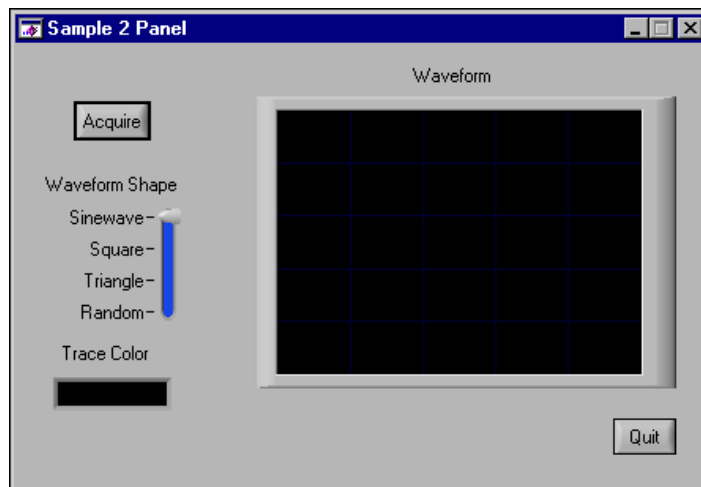

Figure 2-5. sample2.uir Panel When Running
2. Run the project by selecting **Run»Debug sample2_dbg.exe** or by pressing <Shift-F5>. The GUI shown in Figure 2-5 appears after the program compiles and runs.